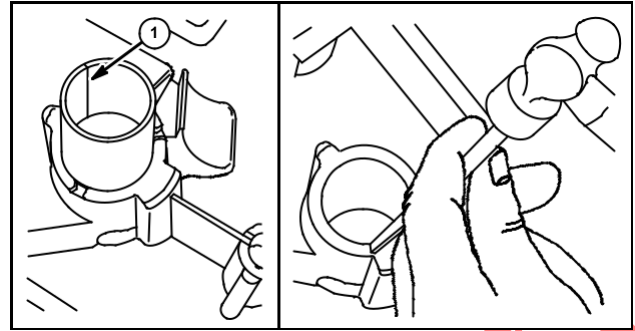

Fig. 13
1. Place DU bearing (1) on cylinder or cover bearing with oil hole in cylinder or cover bearing. If cover bearing does not have oil hole, place split (when present) of bearing (1) as shown in Fig. 13.